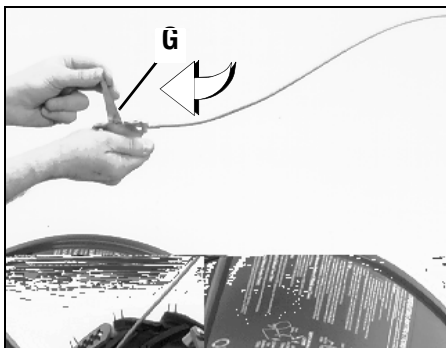

**Figure 2-4: Attach handlebars.**
**3.** With the forward clutch cable (N, Figure 2-4) on the inside of handlebar, position the handlebar ends on the outside of the two mounting tabs (M, Figure 2-3) on the transmission top cover.
**4.** Loosely attach the handlebars to the mounting tabs with two 3/8-16 x 1" screws (heads of screws go to inside of tabs), 3/8" flat washers and 3/8"-16 lock nuts (O, Figure 2-4).